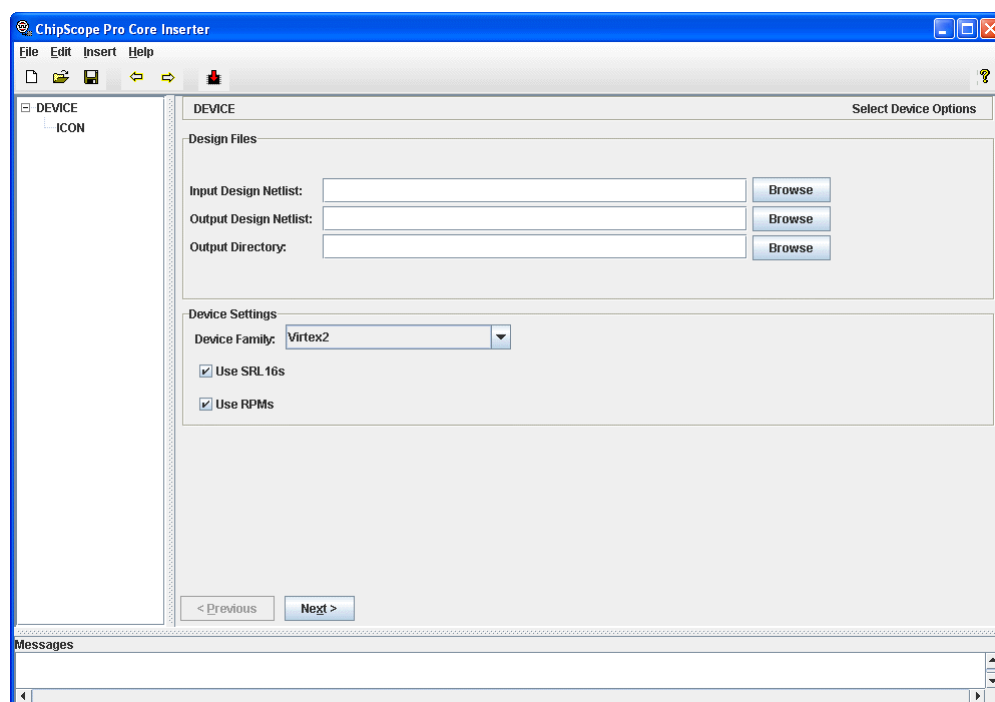

Figure 3-3: Blank Core Inserter Project
When the ChipScope Core Inserter is first opened, all the relevant fields are completely blank. Using the command **File** → **New** also results in this condition (Figure 3-3).
1. Specify the Input Design Netlist (Figure 3-3, page 3-5).